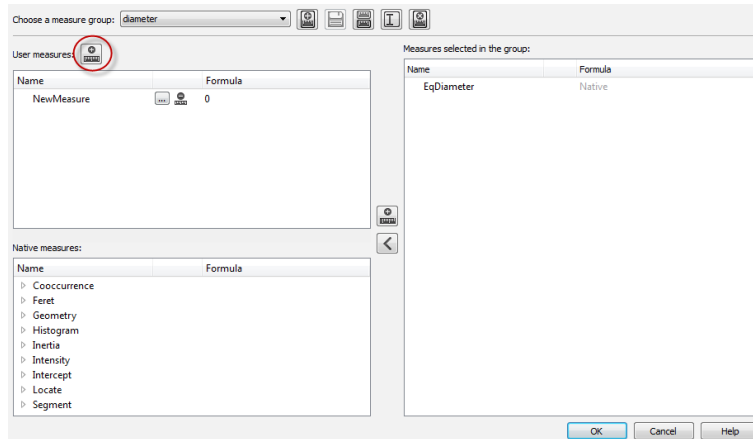

Figure 6.61: Custom measures definition button
- Create a custom measure by pressing the dedicated button (see Figure 6.61).